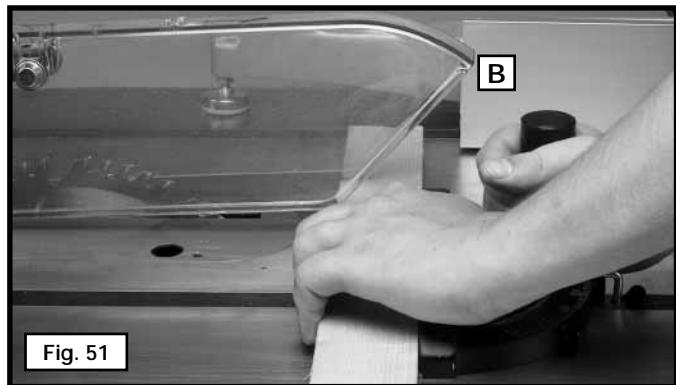

Fig. 51
When cross-cutting a number of pieces to the same length, clamp a block of wood (B) to the fence and use it as a cut-off gauge (Fig. 51). The block (B) must be at least  $3/4$ " thick to prevent the cut-off piece from binding between the blade and the fence during removal from the saw table. Always position this block of wood in front of the saw blade. Once the cut-off length is determined, lock the fence and use the miter gauge to feed the work into the cut.
**CAUTION** When using the block (B) Fig. 51 as a cut-off gauge, it is very important that the rear end of the block be positioned so the workpiece is clear of the block before it enters the blade.